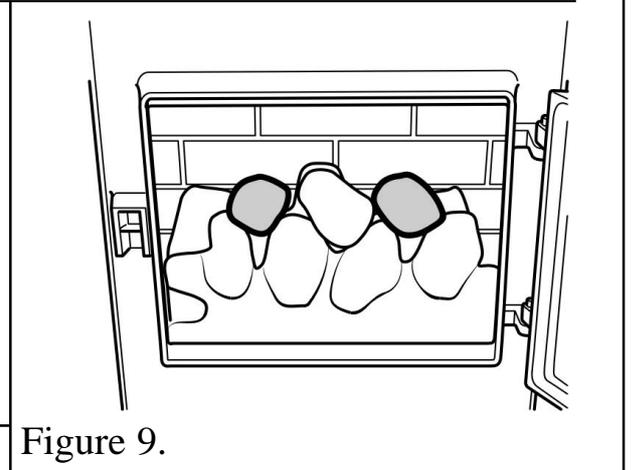

Figure 9.
4. The rear ceramic wall must be located onto the ledges at the back of the rear base ceramic (See figure 9). To achieve this, hold the rear ceramic wall against the rear of the firebox at its uppermost position. Whilst holding the rear ceramic wall in this position locate the rear ceramic base coal into position (See figure 9). The rear wall can now be released. Ensure that the rear ceramic wall sits on the ledge at the back of the rear base coal.
**9.** Locate the two ceramic coals identified with a number '2' as in figure 9.